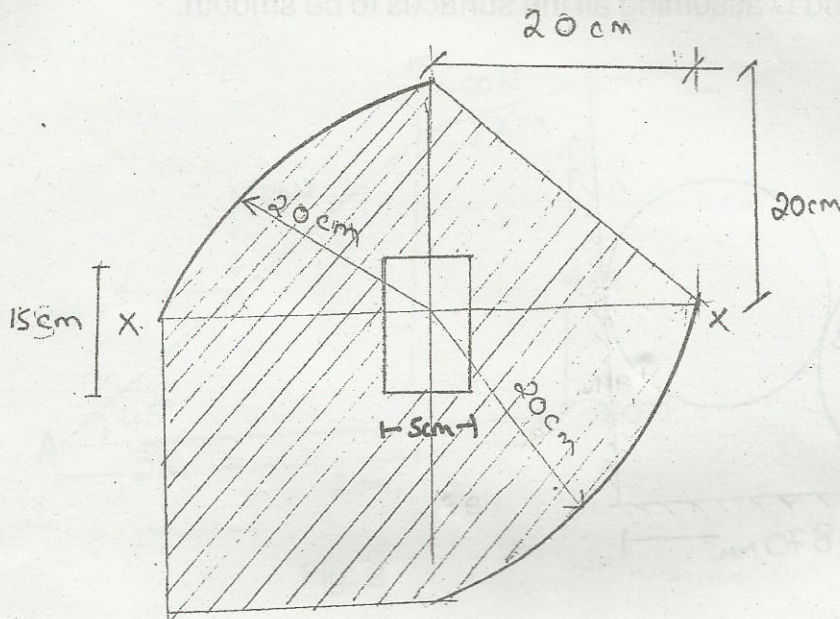

Fig. 6
6. Find the moment of inertia of the shaded area about x-x axis as shown in fig 6. 20